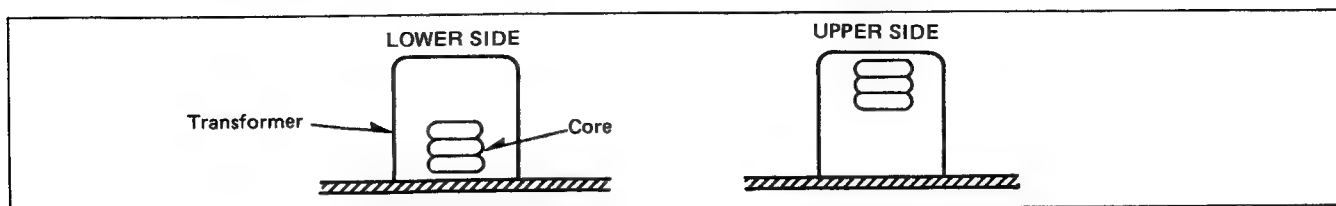

Fig. 19
2. Transformer core position. (Application for both Field Adjustment and General Alignment.) Unless otherwise noted, a transformer core which has two tuning peak points should be adjusted at the lower position as shown in Fig. 19.